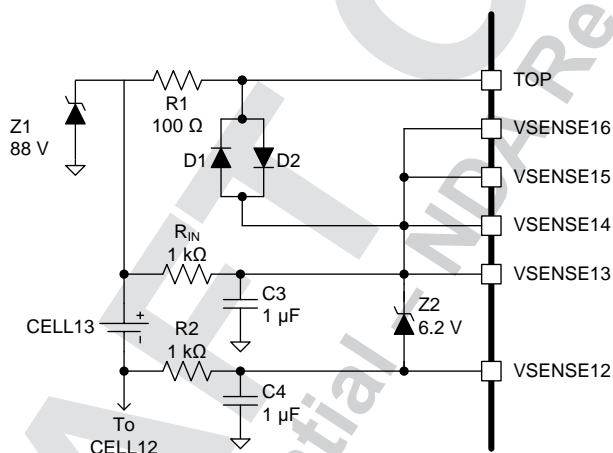

Figure 3. Connecting Less Than 16 Cells
4. Connect VSENSE pins to VSENSE16 as Figure 3 shows